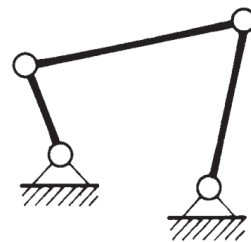

Fig. 3. Family 3 – 3 DOF in total [Miller 1989]
**Family 3** – all links have the same three degrees of freedom removed. For the mechanism in Fig. 3, these are rotation about the vertical and horizontal axes and translation along an axis perpendicular to the plane of the figure. This family includes mainly planar mechanisms as well as some spatial mechanisms.